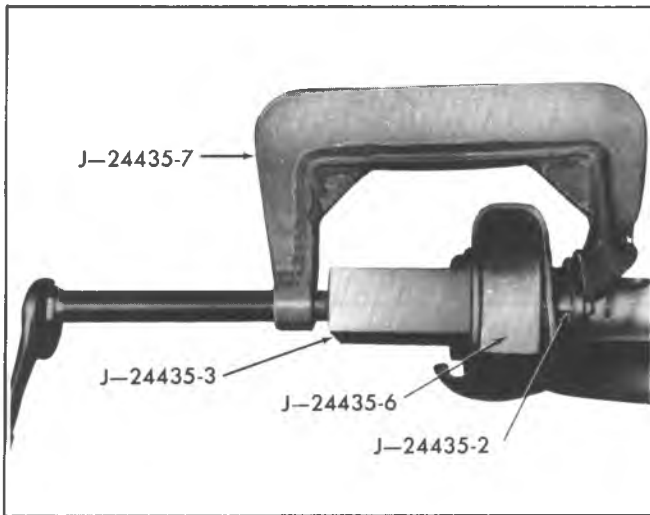

Fig. 3C-25--L.C.A. Rubber Bushing Removal
7. Lower jack SLOWLY to release spring compression (Fig. 3C-24) and gain clearance to remove bushings. Be sure all compression is released from coil springs.